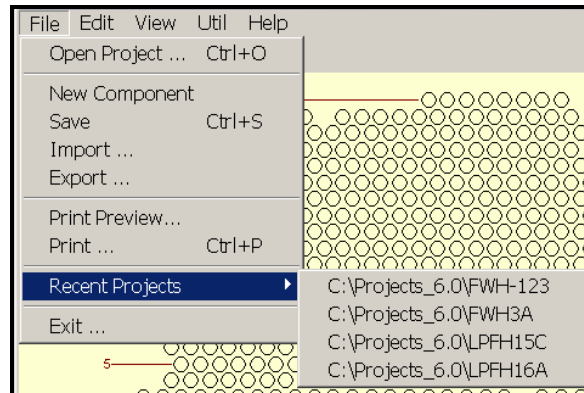

Figure 8. Recent Projects Fly-out Menu
- o **File | Recent Projects** displays the fly-out menu in Figure 8 listing any recently opened projects. Click a project in the fly-out menu in order to open that project in MakeComp. This is a faster way of opening a project vs. using the **File | Open Project** method discussed earlier.